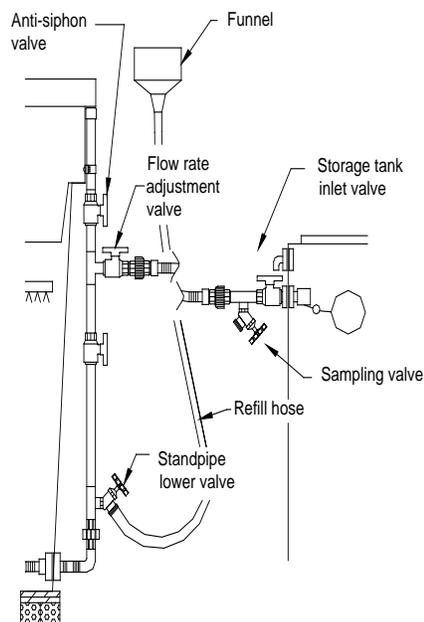

Figure 6-1
Step 2. Close the filter inlet valve and allow the filter water level to drop to the "paused" level. Close the storage tank inlet valve (figure 6-1). Attach the refill hose to the lower valve on the filter standpipe. Insert a funnel into the end of the hose. Ensure the flow rate adjustment valve and the anti-siphoning valve are open. Open the lower valve on the filter standpipe.